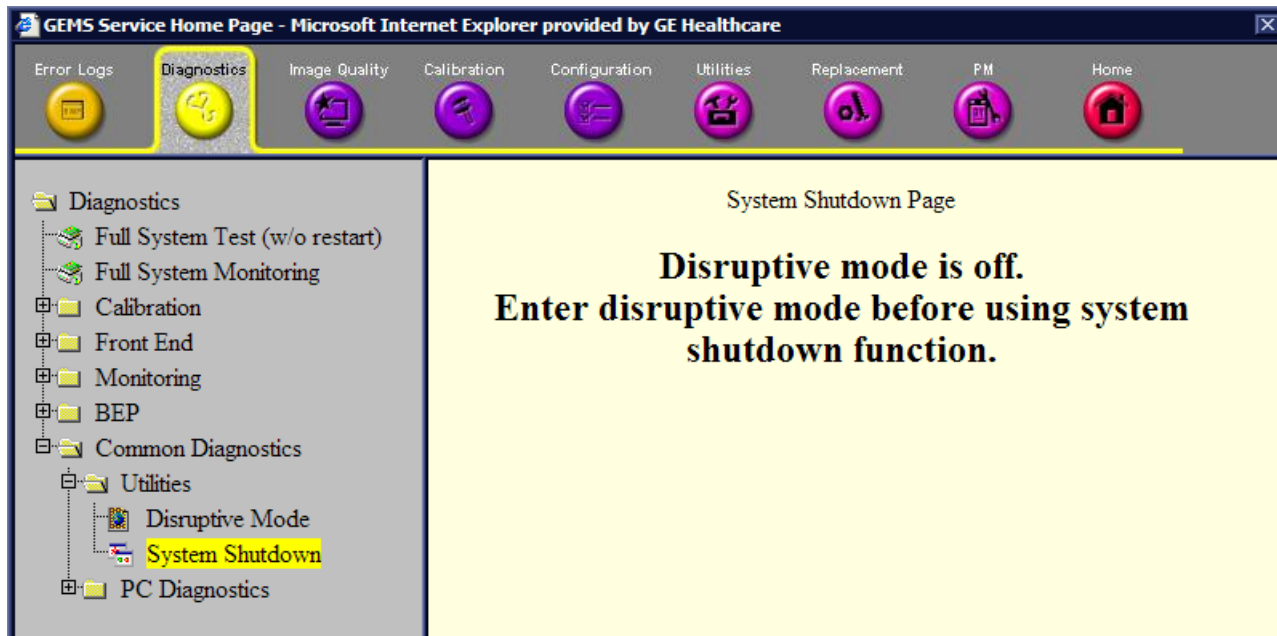

Figure 7-130 System Shutdown
- **System Shutdown** - see Figure 7-130.